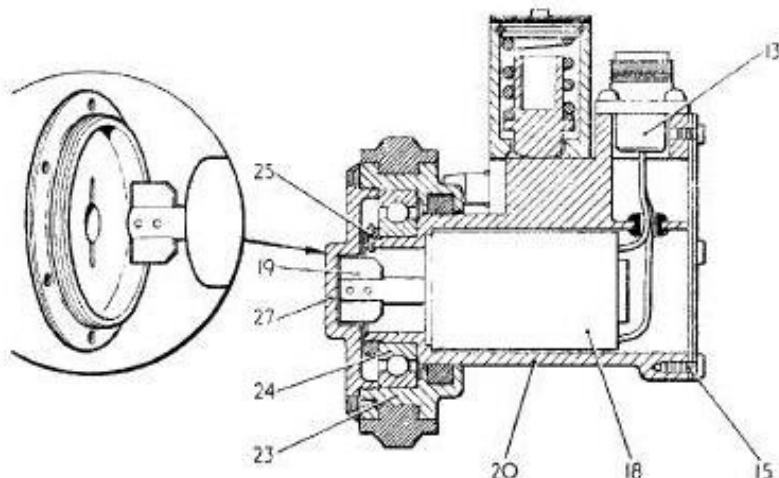

Fig. 2 Sectioned view
3. The generator is secured within a case by means of four screws (*fig. 2*), and the connections brought out on a Cannon plug. A rubber bonded flywheel assembly with its bearing is located at the generator driving end of the case, and is secured to the case by a bearing nut. A flywheel cap at the driving end mates with the spade drive of the generator (*fig. 2*), and is screwed to the flywheel assembly forming the positive drive to the
Key to Fig. 2 and 3